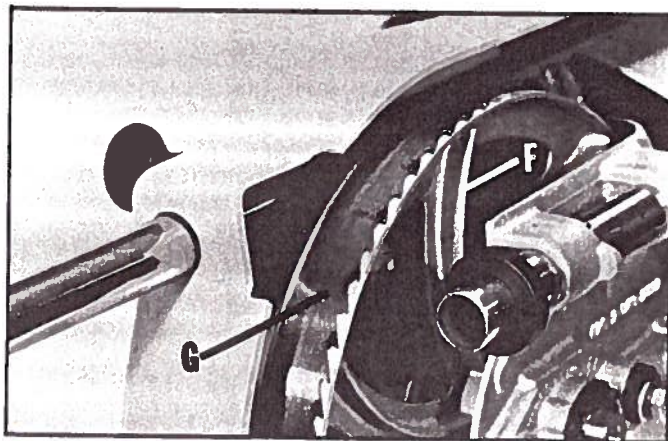

Fig. 21
6. Turn the wheel (F) Fig. 21, counterclockwise by hand.
Check to see that the blade (G) Fig. 21, rides evenly on both wheels with the blade teeth flush with the outside rim of the wheels.
Check to see that the blade (G) Fig. 21 rides evenly on both wheels with the blade teeth overhanging the rim of the idler wheel (F) Fig. 21, approximately $\frac{1}{4}$ " and with the blade teeth flush with the rim of the drive wheel.